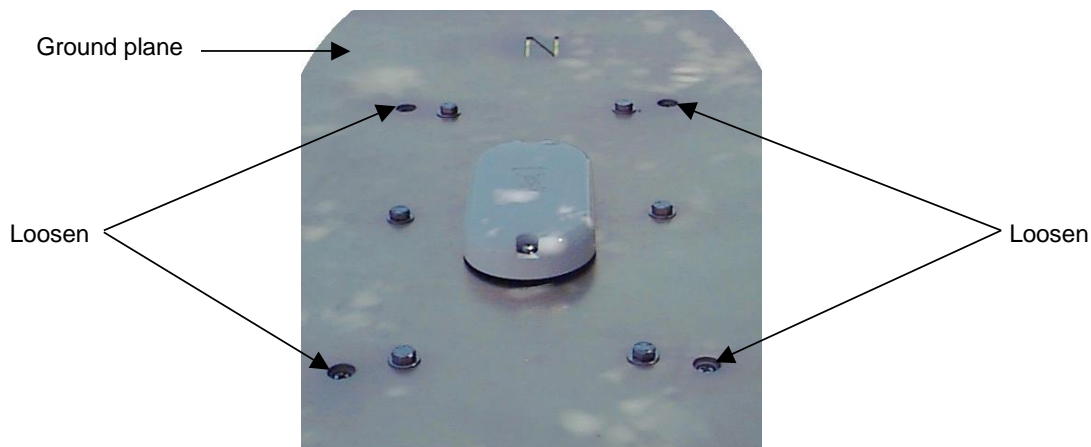

Figure 3. Opening the Sensor Enclosure
9. Open the sensor enclosure by loosening the four countersunk bolts shown in Figure 3. ***Do not remove*** the six bolts holding the ground plane to the enclosure lid.